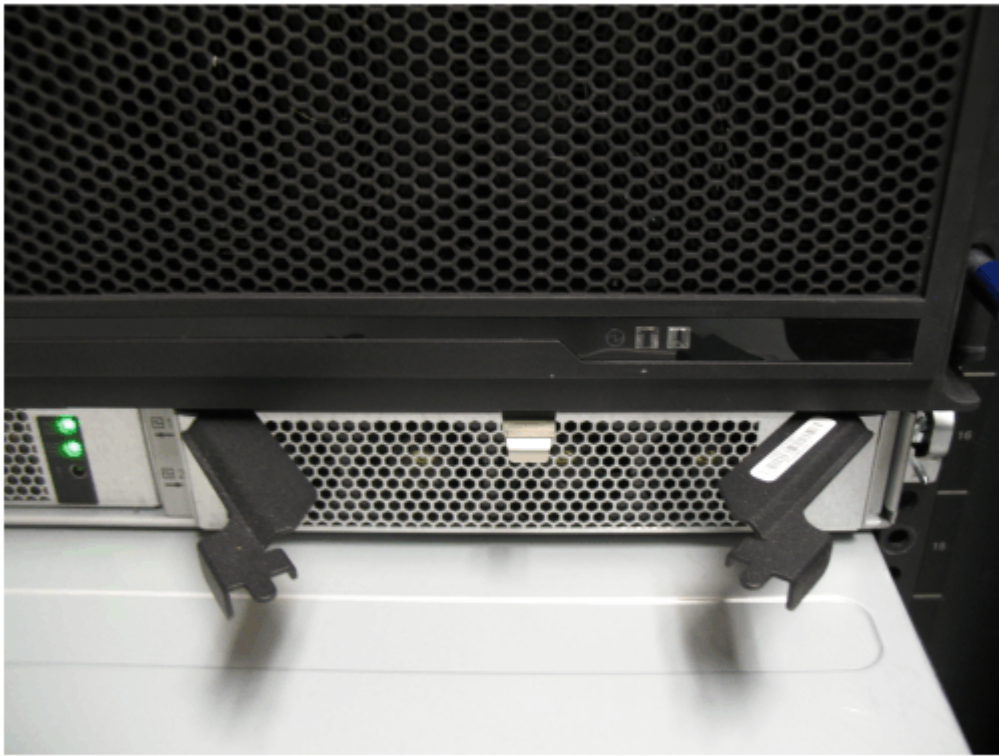

Figure 146. Releasing the power supply handles
Each PSU provides cooling to the lower part of the enclosure. Ensure that the second PSU in the enclosure is powered on and operating correctly. For example, in Figure 146 on page 192, PSU 1 is operating while PSU 2 is being removed.
4. Rotate the handles outward, as shown in Figure 146 on page 192.